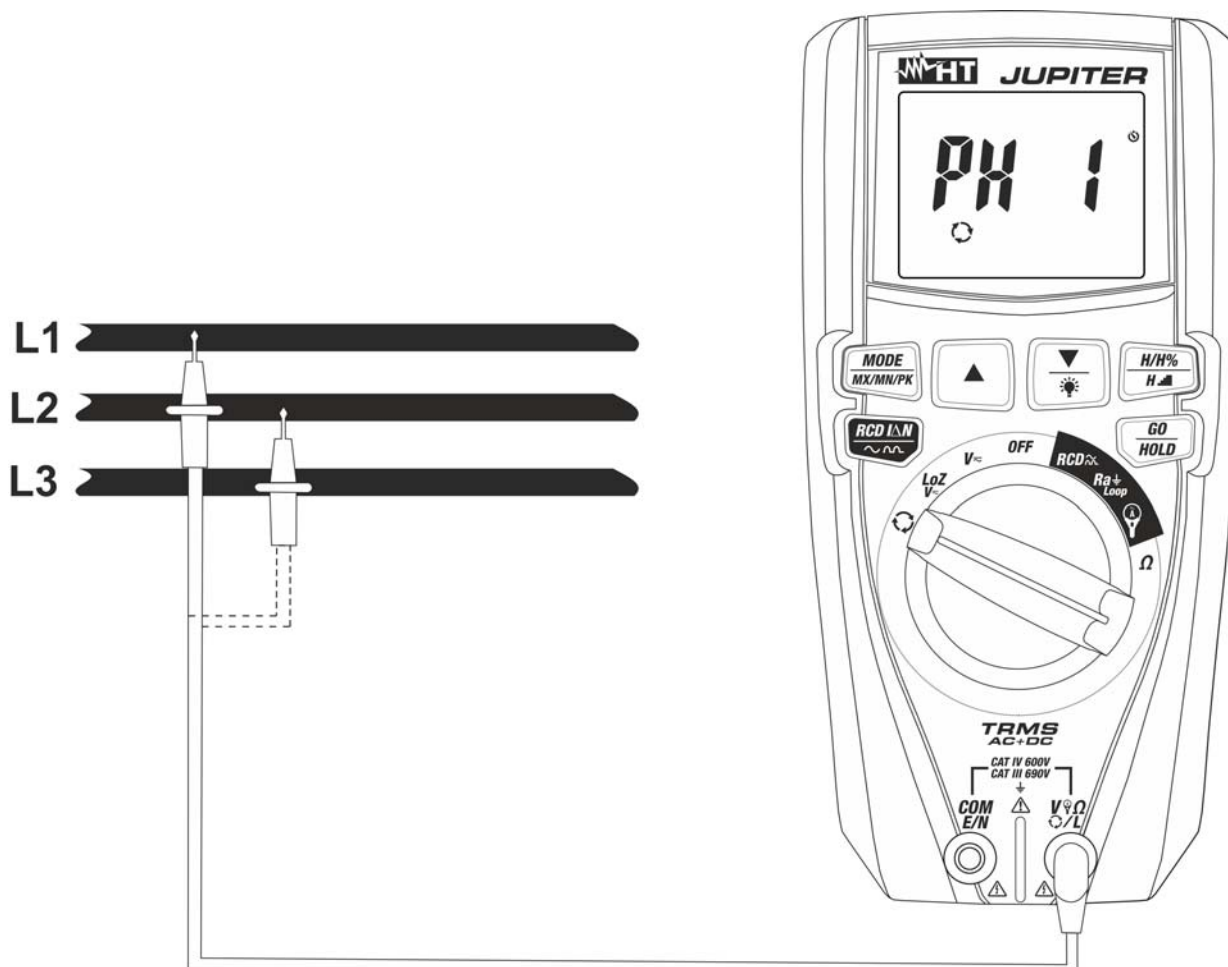
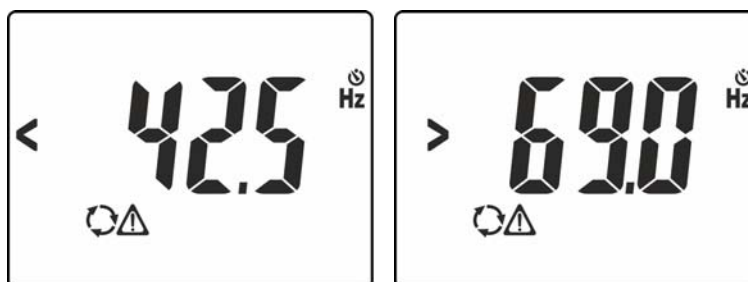
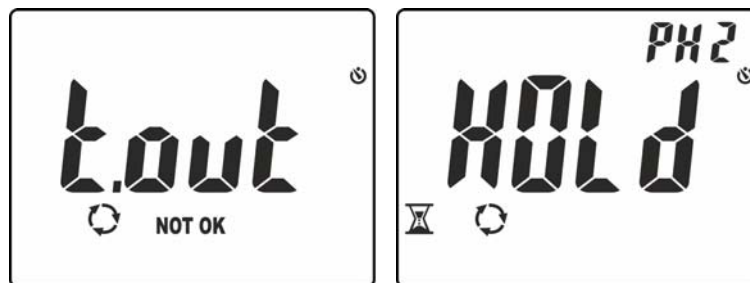

Fig. 12: Use of the instrument for phase sequence and phase concordance test
Fig. 13: Signal of voltage with wrong frequency
Fig. 15: Detecting phase L1 and waiting for phase L2
- Position the red lead onto phase **L1** of the three-phase system to be tested (see Fig. 12). The following messages may appear on the display (see Fig. 13) to identify the presence of a voltage signal with frequency out of range **42.5Hz ÷ 69Hz**. In these conditions, the instrument does not perform the test.
6. Position the red lead onto phase **L2** of the three-phase system to be tested (see Fig. 12). In case passage between phase L1 and phase L2 takes more than **10s**, the instrument shows message “**t.out**” on the display (see Fig. 15 – left side). In conditions of correct voltage and frequency, the instrument shows message “**HOLD**”, symbols  and “PH2” and the buzzer sounds continuously, waiting for a stable voltage value on phase L2 to be detected (see Fig. 15 – right side)